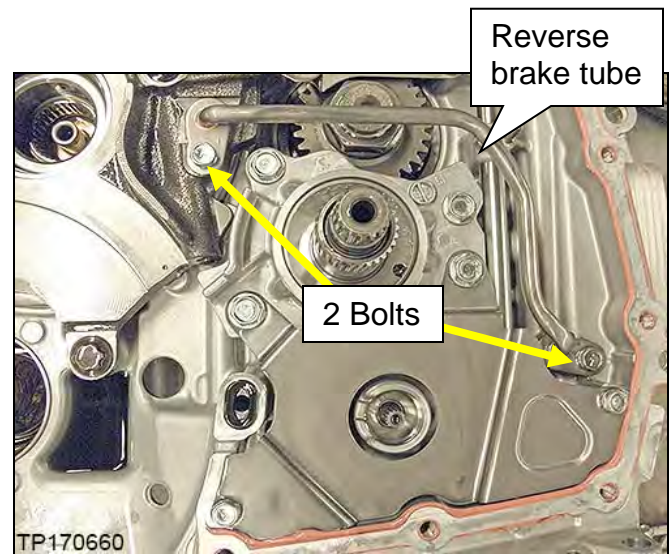

Figure 8H
8. Remove the two (2) bolts shown in Figure 8H and then remove the reverse brake tube from the CVT.